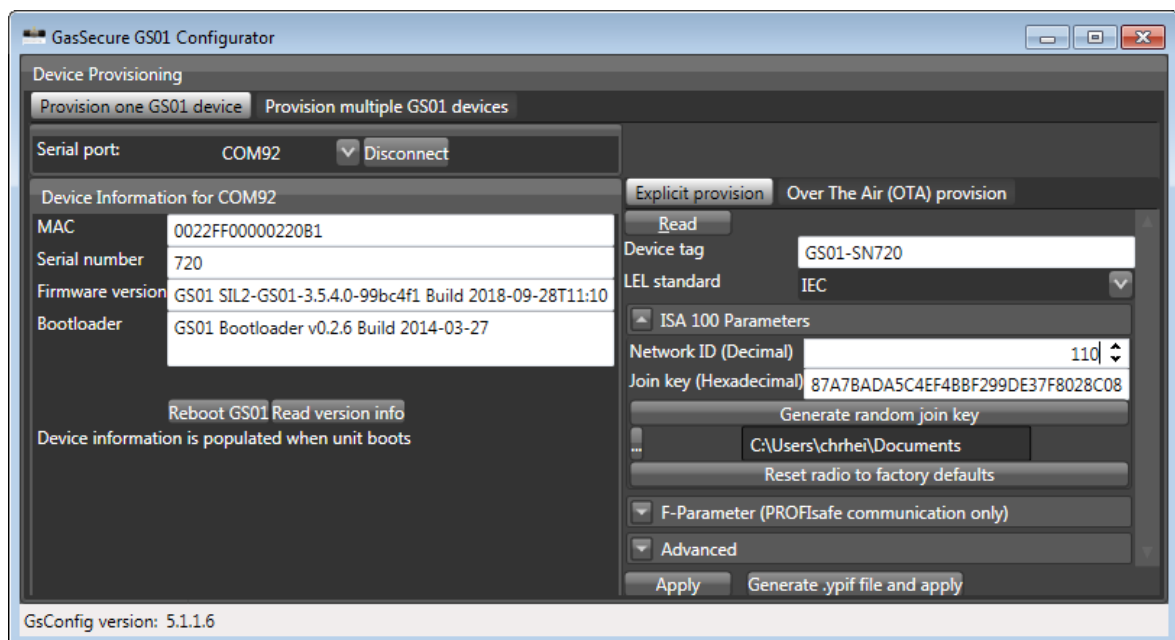

Figure 3-1: GS01 Configurator
- b) Run the GS01 Configurator and select the correct COM port. Keep the default mode "Provision one GS01 device". Press the "Connect" button and verify that the device information is displayed, cf. Figure 3-1. Press the "Read version info" button if the device information does not show automatically. Press the "Read" button so that the current provisioning status of the device is displayed. Keep "Explicit provision".
- c) Enter the device tag⁵ and the required network ID in decimal format⁶, cf. Figure 3-1.
- Run the GS01 Configurator and select the correct COM port. Keep the default mode "Provision one GS01 device". Press the "Connect" button and verify that the device information is displayed, cf. Figure 3-1. Press the "Read version info" button if the device information does not show automatically. Press the "Read" button so that the current provisioning status of the device is displayed. Select "Over The Air (OTA) provision".